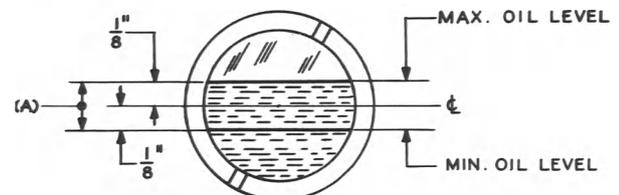

Fig. 3 - Oil Level Limits
- (3) Bearing Boxes (Except the No. 45A, 46A, 47A, and 48A Drives): Fig. 3(A) - The running level of the oil shall not be higher than $\frac{1}{8}$ inch above and not lower than $\frac{1}{8}$ inch below the center line of the oil sight.